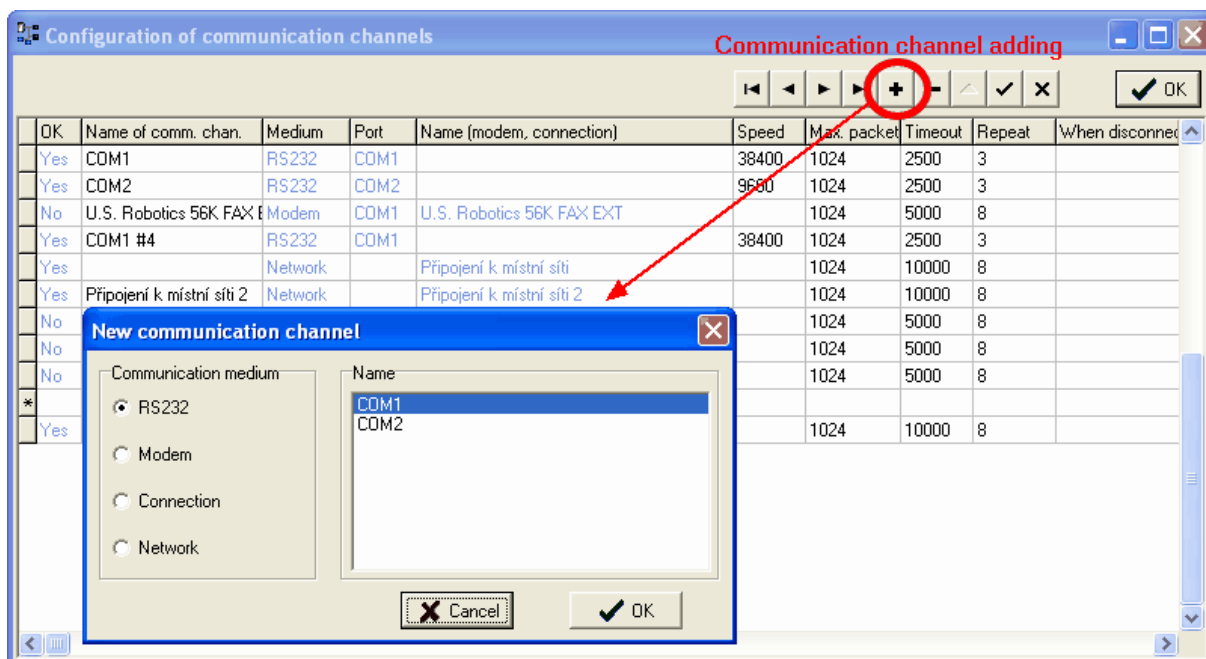

Fig. 32 Adding of new communication channel
- control of computing algorithm and gas composition setting (see Fig. 32)
- In case of adding a new device in to the set service SW is possible to choose already defined communication channel or define a new communication channel with the button „+“ see Fig. 32.